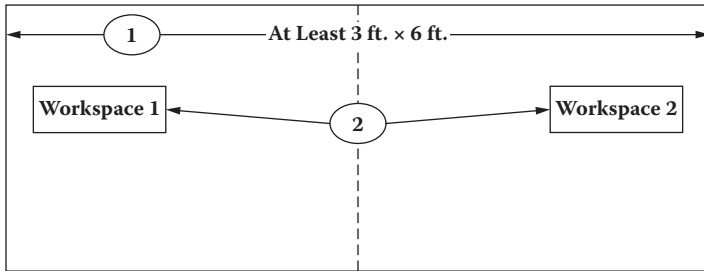

Figure A.2 “Wall” paper with two workspaces.
2. Outline two “workspaces” on the paper (Figure A.2).